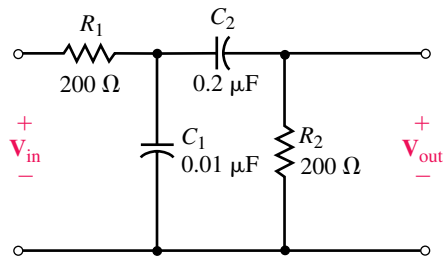

FIGURE 22–52
44. Repeat Problem 43 for the circuit of Figure 22–53.